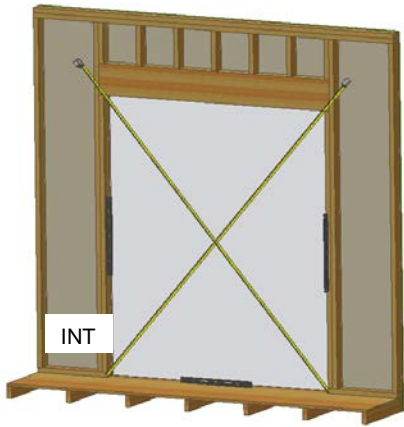

Fig. 1
- C) Verify the rough opening is flat, plumb, level, and square. (Fig. 1)
- D) Take diagonal measurements to check for square. (Fig. 1)
- E) Make sure the bottom sill area of the rough opening is flat and level. Correct rough opening if sloped towards the interior, out of level, or humped. (Fig. 1)